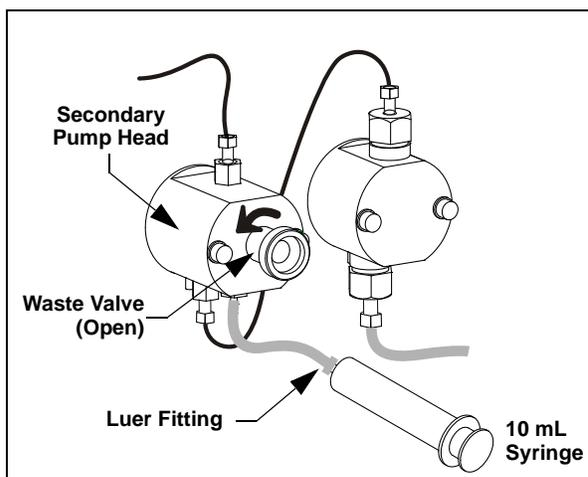

Figure 29. Priming the eluent lines
2. Disconnect the waste line from the luer fitting on the secondary (left) pump head and connect a 10 mL syringe (P/N 079803) to the luer fitting (see Figure 29).